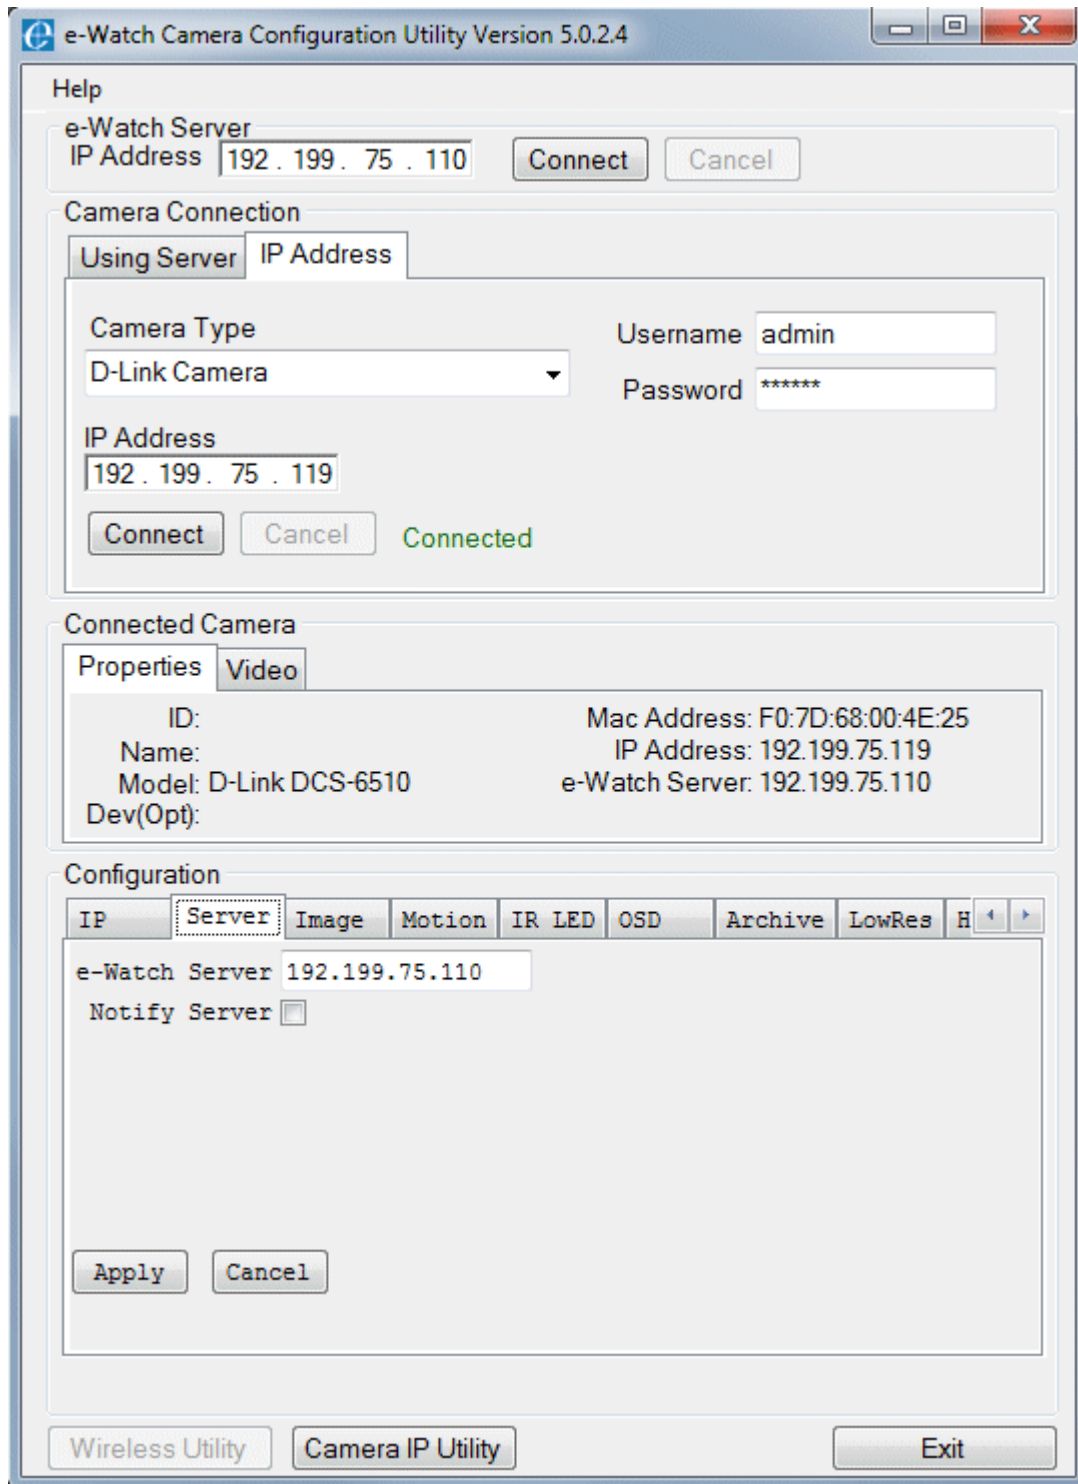

Figure 4-2. Connecting D-Link Camera Using e-Watch Camera Configuration Utility
You can also accomplish this task using the e-Watch Camera Configuration Utility. See Figure 4-2.
- Figure 4-2. Connecting D-Link Camera Using e-Watch Camera Configuration Utility 10